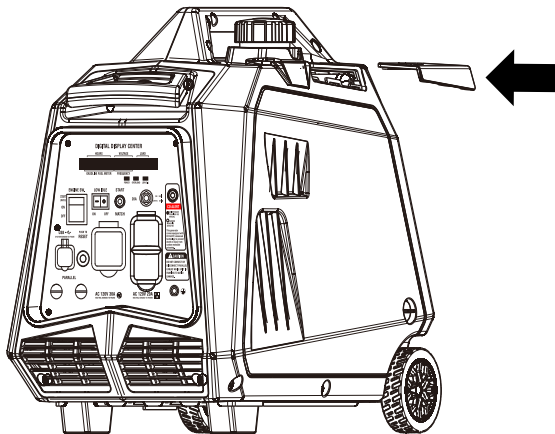

Figure 15: Slide off spark plug cover
3. Unscrew the bolts and remove the left exterior cover plate (see Figure 15).